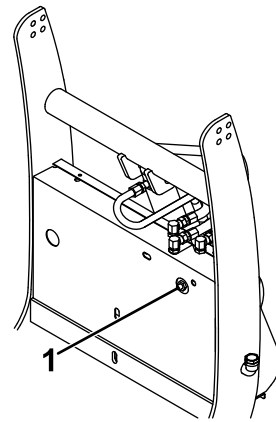

Figure 43
1. Loosen the jam nut on the back of the hydraulic manifold (Figure 43).